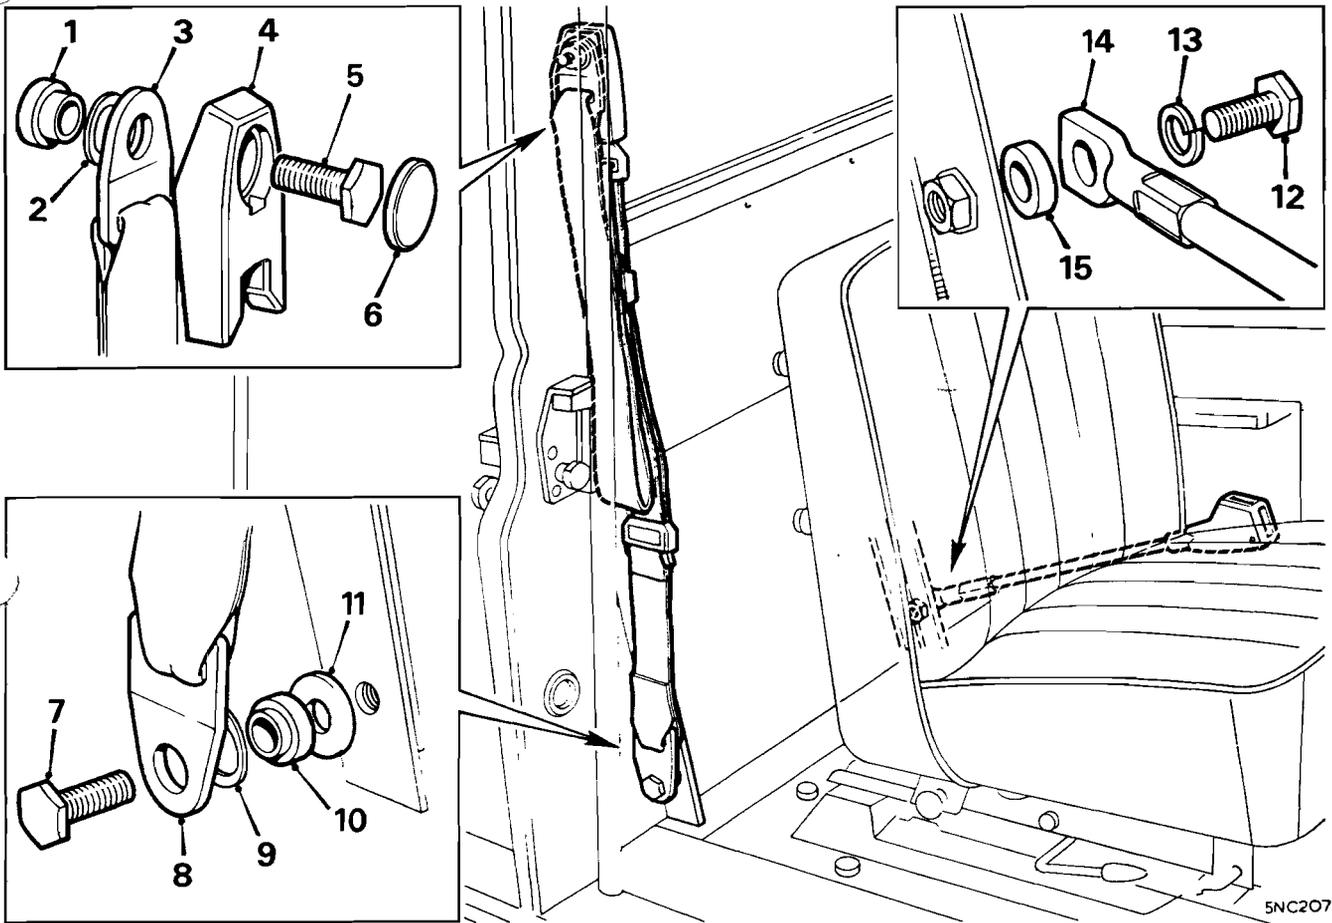

Fig. O.20
- (5) Reverse the order of the removing procedure, noting the following:
- (b) The belt brackets and buckle units must be refitted with their component parts in the order shown in Fig. O.20.